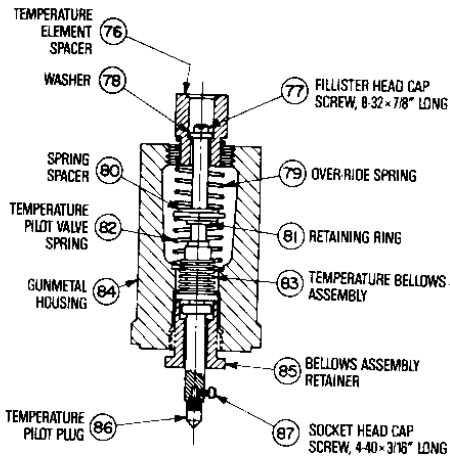
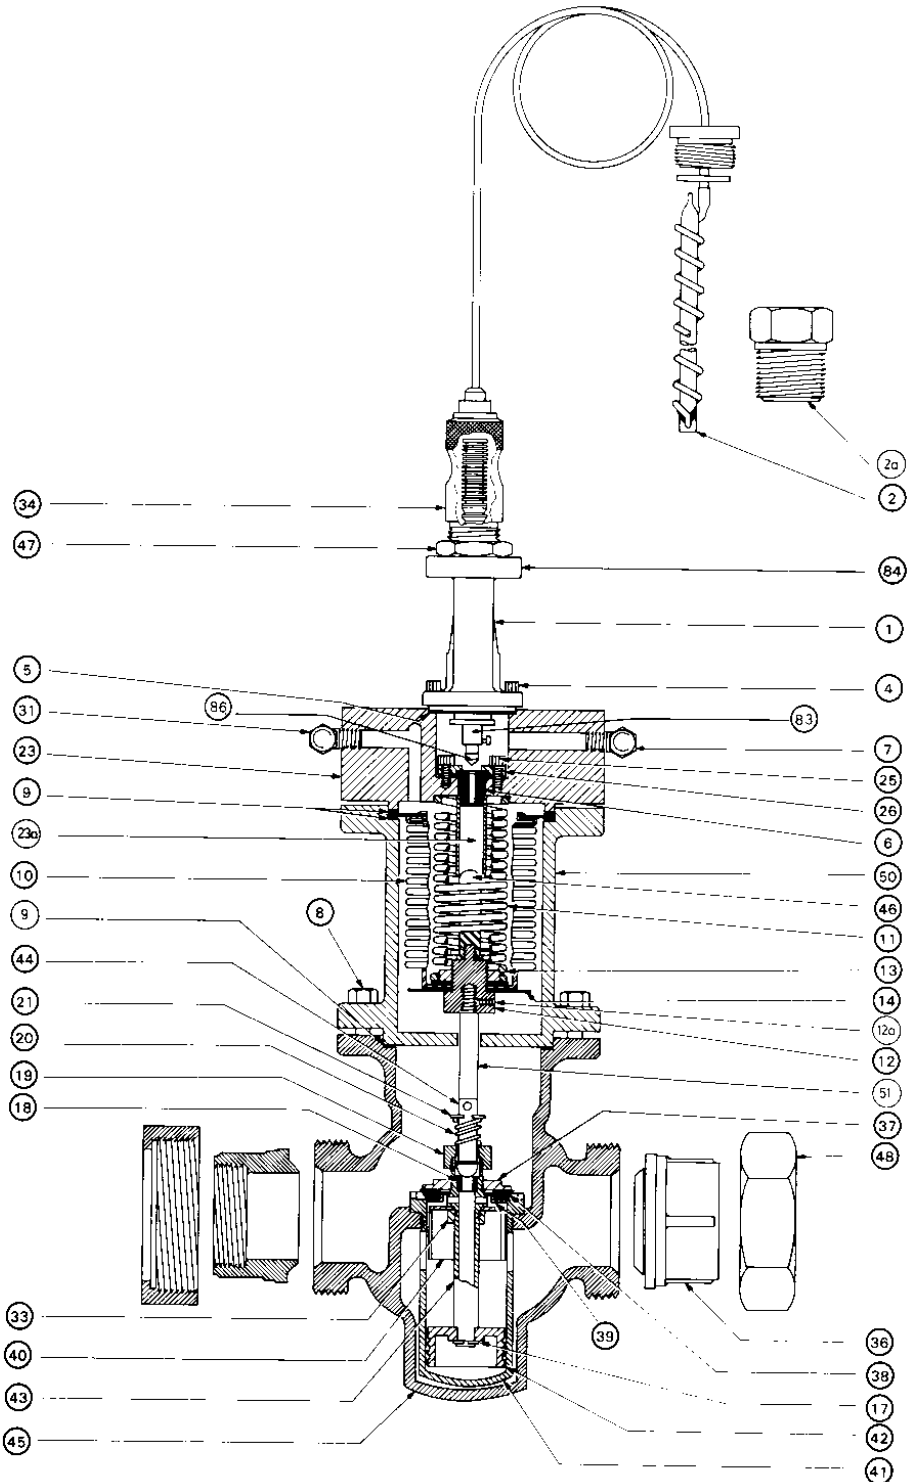

FIGURE 5 - TEMPERATURE PILOT ASSEMBLY
FIGURE 7 — TEMPERATURE REGULATOR, ASSEMBLY DRAWING
DR5 Refer to Figure 5 and remove the Temperature Pilot Plug (86) by loosening the Socket Head Cap Screw (87) and unscrewing the plug (86).
DR8 If, when the Valve was in operation, steam was escaping through the Temperature Superstructure housing (84) the Temperature Bellows Assembly (83) has been damaged and must be replaced (See Figure 5).
DR12 Reassemble complete superstructure assembly in reverse order (refer to Figure 5) Do not forget Retainer Ring (81) When tightening screw (77), hold lower end of Temperature Bellows Assembly (83) with pliers. Do not overtighten and twist or damage bellows.
- DR15 Refer to Figure 7, remove Screws (8) and Valve Top (23). From the Valve Top (23) remove Screws (25) and Upper Pilot Seat Retaining Ring (26). Lift out the Upper Pilot Seat (6).
- DR16 Clean Upper Pilot Seat (6) thoroughly. If it is worn so that the Pilot Plug (86) (see figure 5) will not seat correctly, the Seat (6) must be replaced.
- DR17 Thoroughly clean the inside of the Isolation Tube which is fitted to the bottom of the Valve Top (23). All dirt and scale must be removed.
- DR18 Refit the Seat (6), Retaining ring (26) and Screws (25) back into the Valve Top (23).
- DR19 Remove the top Bellows Gasket (9) and lift out the Servo Spring (11).
- DR20 See Figure 7. Remove screws (8) from Bellows Housing (50). Lift Bellows Housing straight up from the valve body (45). In so doing the entire inner valve assembly down to and including the bottom piston will be removed.
Refer to Figure 7
- DR30 Refer to Figure 7, and the item numbers quoted on the drawing. Reassemble the inner valve assembly as follows:
Note : The number in brackets refers to the item shown in Figure 7.